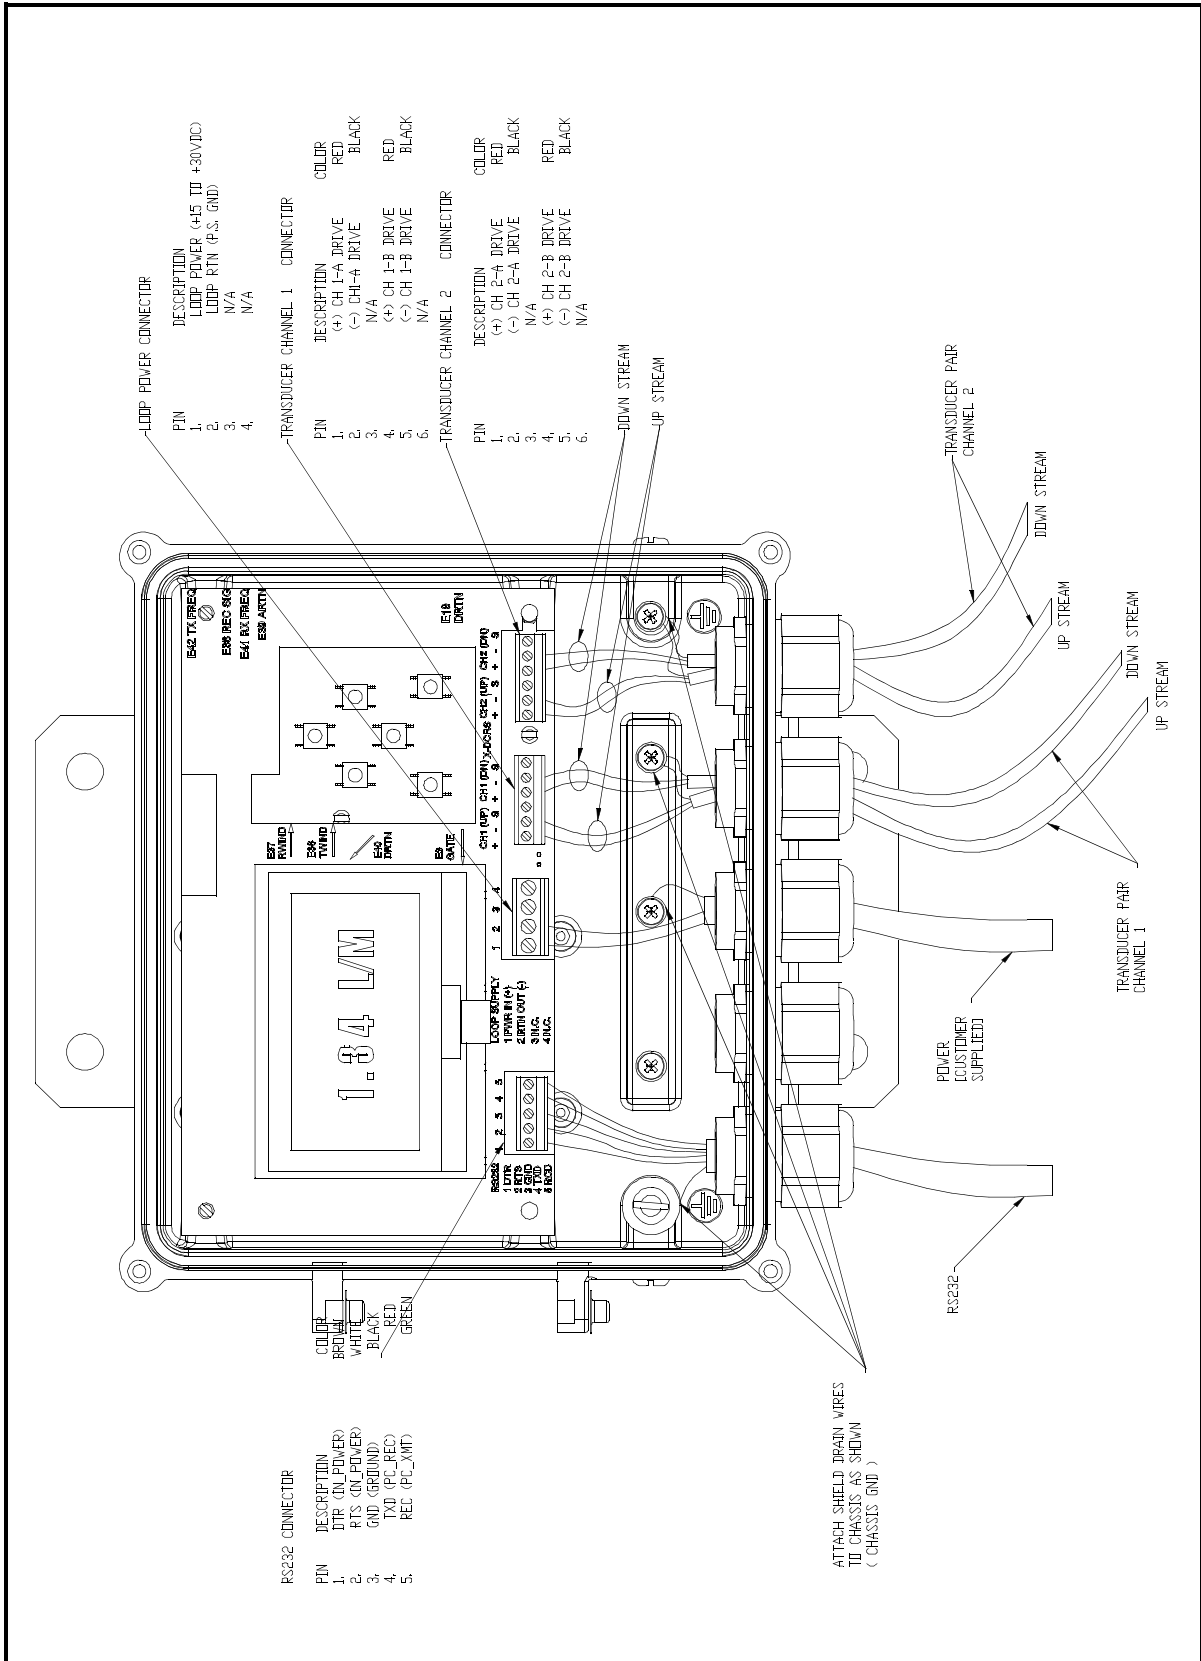

Figure 2: UTX878 Wiring Diagram (Dwg. #702-528_2)
This section contains instructions for making all the necessary electrical connections to the Model UTX878 flow transmitter. Refer to *Figure 2* on the next page for a complete wiring diagram.
Refer to *Figure 2* on the previous page to locate the power terminal block and connect the line power as follows:
4. Route the shielded cable through the conduit hole and connect the power leads to the power terminal block as shown in *Figure 2*. Tie the shield drain wire to the ground bus bar inside the UTX878, but leave the shield wire open on the power supply end (to avoid AC ground loops and for CE certification).